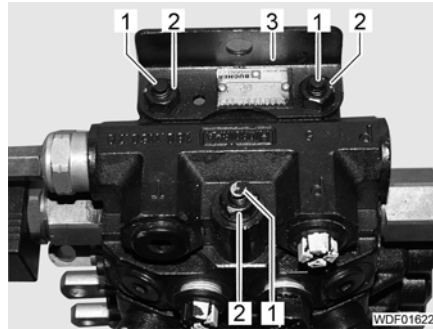

Fig. 238 Fastening of the segments
- Unscrew 3 nuts (Fig. 238,2).
- Remove holder (Fig. 238,3).
- Carefully remove threaded rods (Fig. 238,1) downwards.